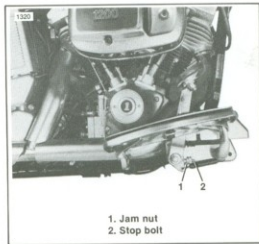

Figure 2-42. Adjusting Brake Pedal — FL Late 1979 and Later
3. **Late 1979 and Later** — See Figure 2-42. Loosen locknut (1) and turn stop bolt (2) clockwise to decrease free play or counterclockwise to increase free play. Tighten locknut to 10 ft-lbs torque.